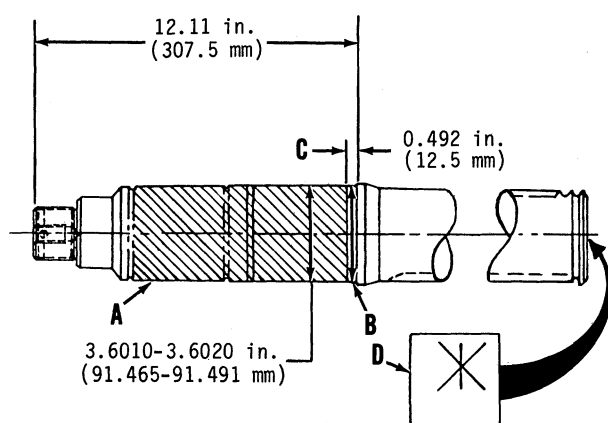

Fig. 197—Axle shaft may be modified for installation of an undersize outer bearing if necessary. Refer to text for details.
If outer bearing cone is loose on axle shaft, check outer end of shaft for identification mark (D—Fig. 197) indicating axle has been modified for installation of undersize bearing. If shaft is standard diameter but is worn or damaged in bearing mating area, shaft may be modified for installation of undersize bearing as follows: Grind shaft in area (A) to diameter of 3.601-3.602 inches (91.465-91.491 mm). Shaft must be ground concentric with diameter (B) within 0.005 inch (0.125 mm) TIR. Do not grind area (C). After modifying the shaft, mark outer end of shaft with identification mark (D) as shown.